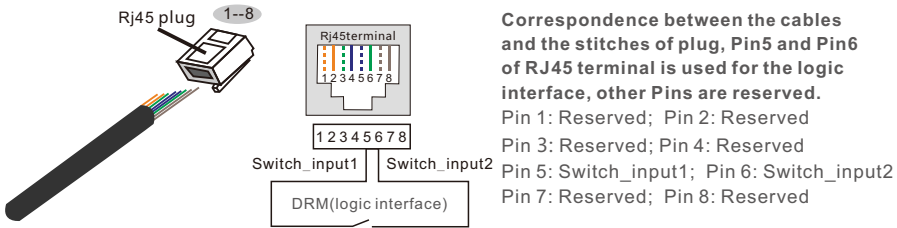

Figure 4.4 Strip the insulation layer and connect to RJ45 plug
- 2.Use the network wire stripper to strip the insulation layer of the communication cable. According to the standard line sequence of figure 4.4 connect the wire to the plug of RJ45, and then use a network cable crimping tool to make it tight.